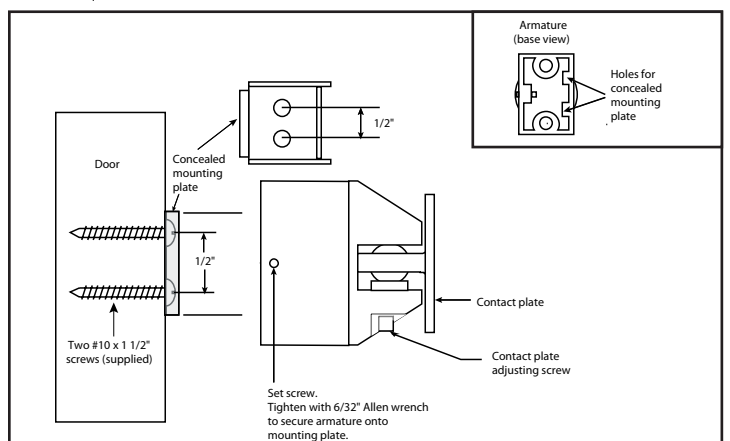

Figure 6. Surface Concealed Mounting (Series 2803 shown)
- Surface concealed mounting (Figure 6).** Measure two points for 1/8" holes drilled 1/2" on center, equidistant from each marked point. Center punch the holes and drill 1/8" diameter x 1-1/4" deep. Install the concealed mounting plate using two #10 x 1-1/2" screws provided.